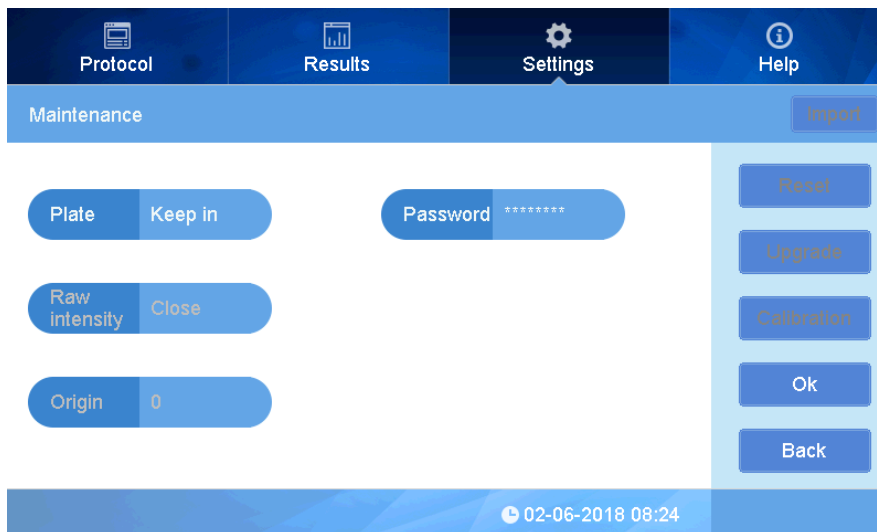

Fig 50
- ① Click "Maintenance" to enter into the interface (Fig 50).